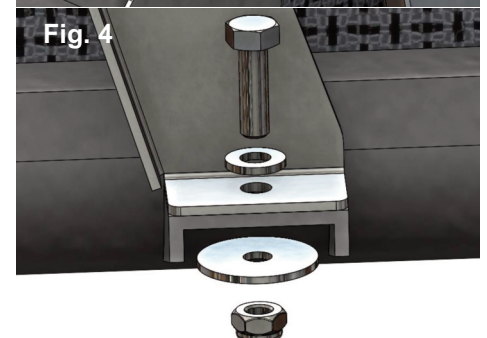

Fig. 5
4. Bolt the bottom in place using the remaining M6 x 20mm bolts, M6 form C washers and M6 Nyloc nuts Fig. 4, fully tighten the mounting bolts making sure the fan assembly is free from strain, Fig. 5.